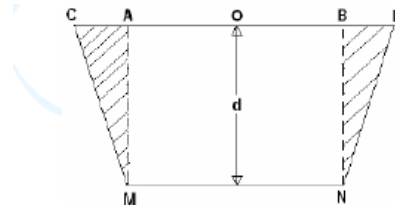

Figure 4: Excavation layout (CBPWD guideline, 2005).
- Regarding excavation or digging layout, first read "AMNB" for digging and then shape CAM and DBN as shown in the figure 4 below.
- Consider point O in the figure 4 above as a centre of the pond,
- If side slopes are considered to be same in both sides the distance of points AC & BD are equal. Similarly, distances of OA & OB are as well equal (See figure 4 above).
- Start excavating or digging AMNB first and then shape CAM and DBN as shown in the figure 4 above.